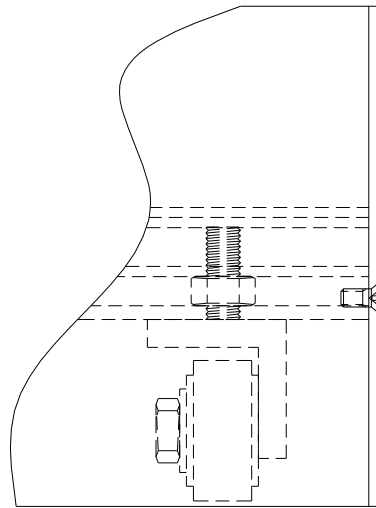

Figure 16
2. Loosen the nut that locks the nose caster in place (see Figure 16).